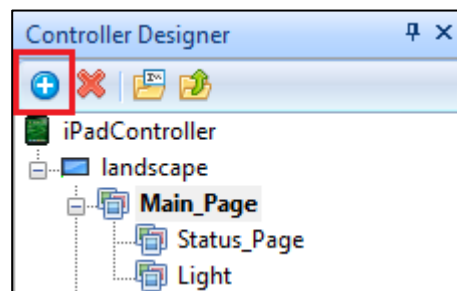

Figure 11 - Adding Pages
3. A page is required for every device found in the system. Under Controller Designer, **first click on "Main\_Page"** and then click on the blue plus button to add a page for each device (Figure 11). Press the blue button as many times as devices there are in the Lutron System. **Make sure to click "Main\_Page" first before proceeding to add pages.**